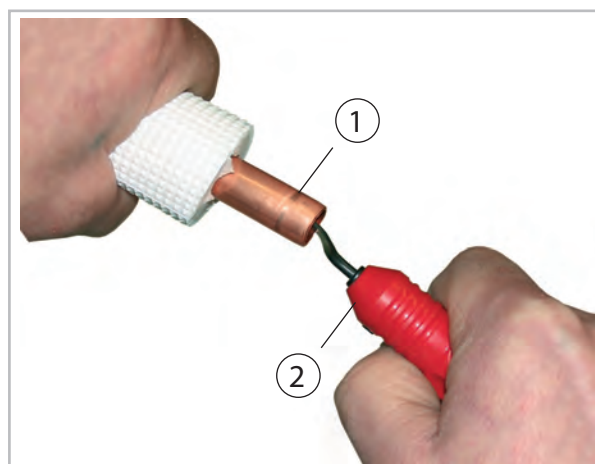
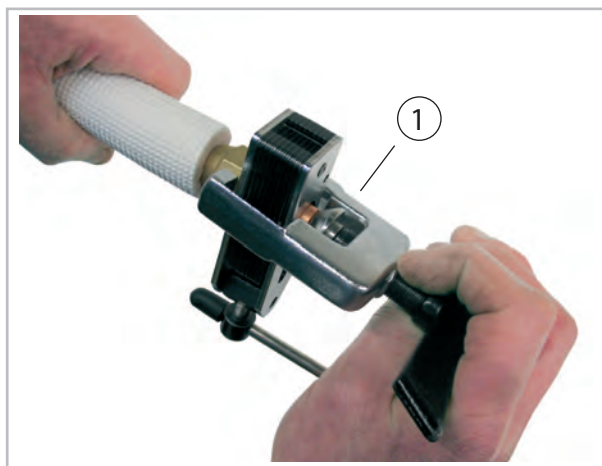

Fig. 33: Deburring the refrigerant piping
Fig. 34: Flanging the refrigerant piping
8. ➤ Prepare the laid refrigerant pipings as shown below (Fig. 33 and Fig. 34).